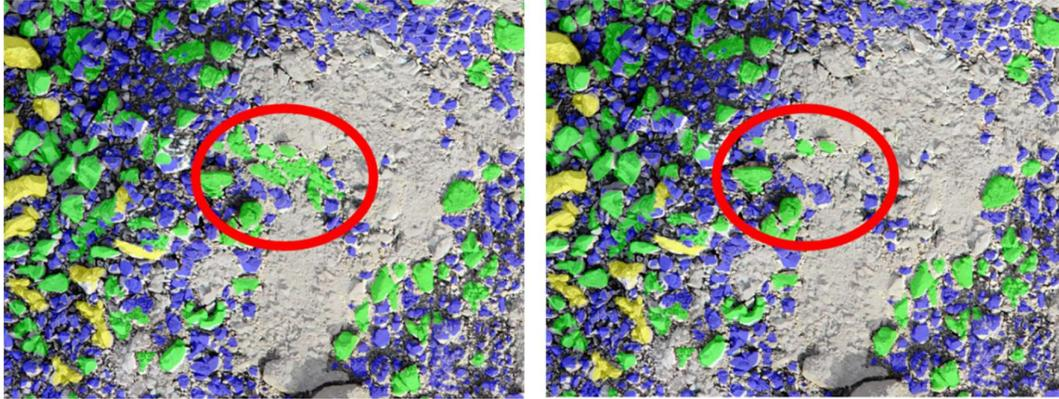

Figure 23: Assignment of Fines
2. The selected label is assigned to several fragments by enclosing the fragments with a polygon by dragging the cursor while keeping the left mouse button pressed. After releasing the mouse button selected fragments are highlighted. Confirm the selection by clicking the middle mouse button or the “Enter” key to assign the new label to the selected fragments. See Figure 23.